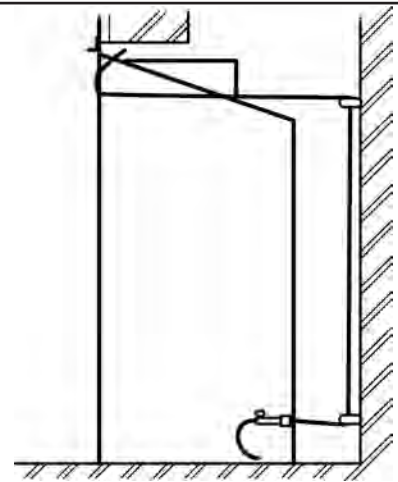

Figure 19. Cable route
6. Thread the cables through the eyebolts. Return the cables through the holes near the bottom of the convection box back panel (See figure 19) (**For precast or clay block flue systems return the cables through the slotted holes in the side of the convection box**).